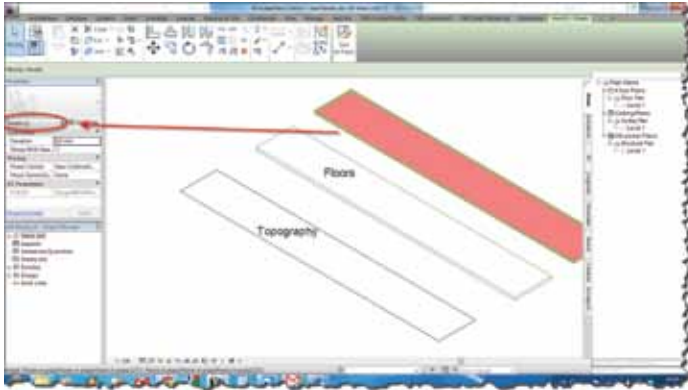
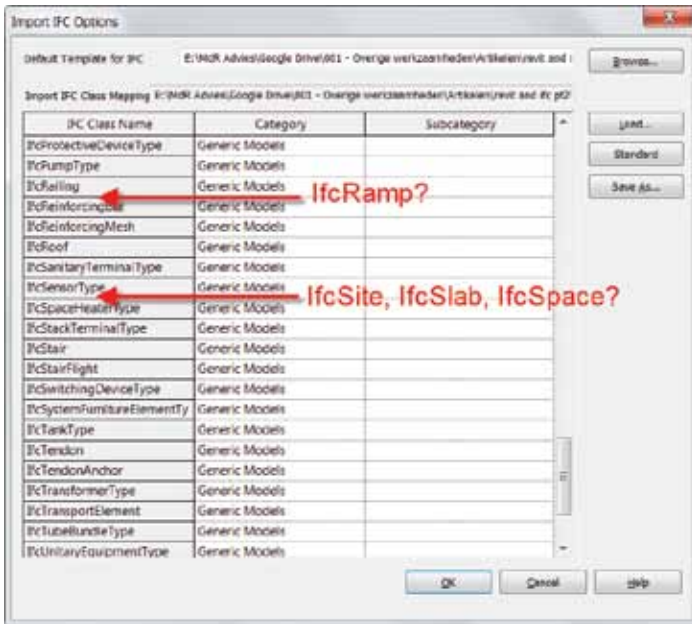

Figure 5
Figure 6
- Upon import, create a mapping table that converts all elements in IfcBuildingElementProxy to the category Roads and presto, you're done (see Figure 5). Notice that you cannot apply an override for the IFC classes associated with Revit System Families (see Figure 6).